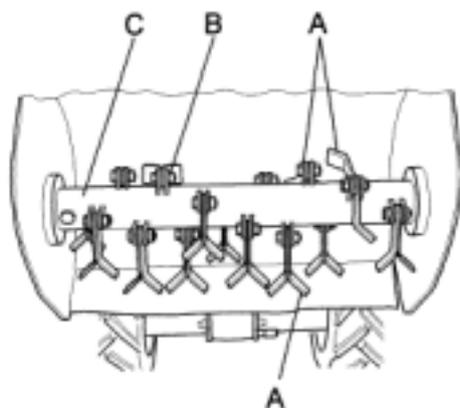

Fig. 10
The flails will be presented as shown in figure 10.
- During work operations if the flails (Fig. 10, ref. A) strike stones or stumps stop straightaway and make sure that they have not become bent or broken. Damaged flails must be replaced.
- The flail fixing screws and relative nuts (fig. 10, ref. B) are also subject to wear. Always replace them at the same time as the flails, using bolts and screws of the same strength and type.
- Even the flail rotor holder (fig. 10, ref. C) may cause vibration. If so, it should be replaced.